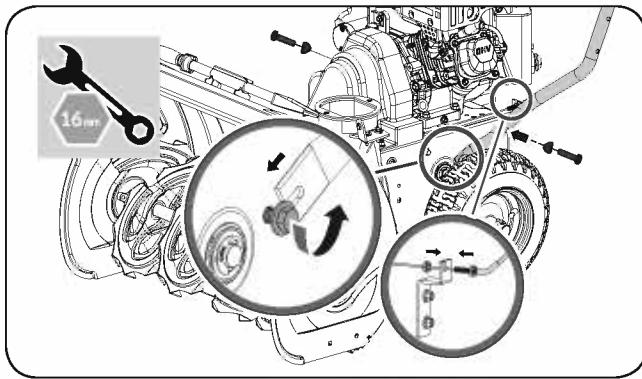

Figure 2a
3. Align the holes in the lower handle with the upper holes on both sides of the transmission housing. Insert the bolts and curved washers and finger tighten to hold in place. (See **Figure 2a**)